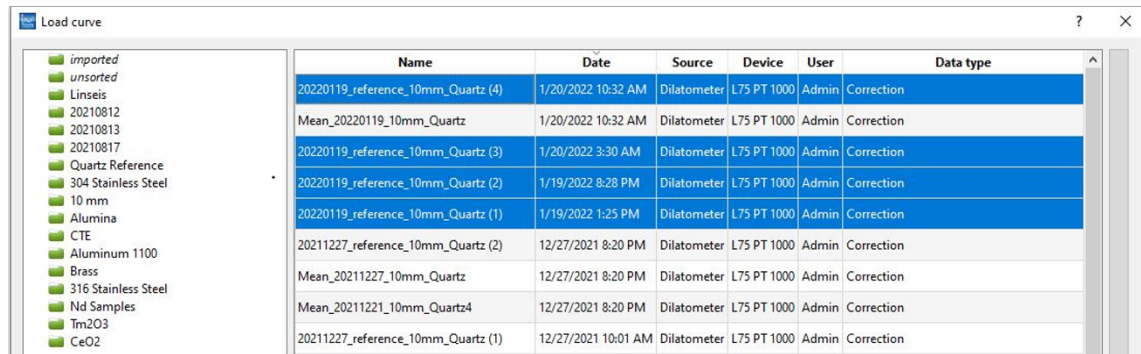

Figure 30. Loading reference curves.
3. Select the curves that were run on the dilatometer under the quartz reference folder, use the Ctrl key to select multiple curves, and click OK. See Figure 30 for an example of multiple selections.